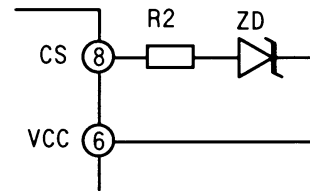

Fig. 26 Overvoltage shutdown circuit (2)
To attain overvoltage protection, the CS pin voltage is forcibly raised from outside the IC until it exceeds the reference voltage (8.5V) of the internal comparator C2. When the reference voltage is exceeded, the IC enters latch mode and shuts the output down. Connect a zener diode (ZD) and resistor between the Vcc and CS pins as shown in Figure 26. When the Vcc voltage exceeds about ZD voltage + 8.5V, the ICs enter the OFF latch mode and shut the output down. If Vcc remains high even after shutdown and current is input to the CS pin, set the current to 1mA or lower.